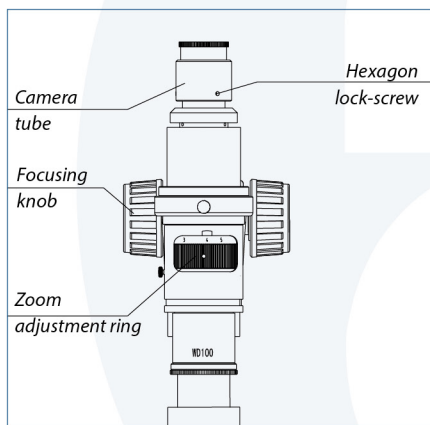

fig. 5
1. Rotate the zoom adjustment ring to the maximum magnification (see fig. 5)